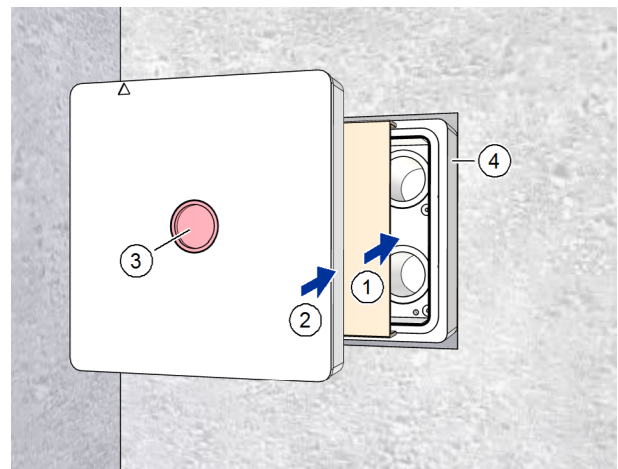

Fig. 11: Inserting the cardboard insert and plaster cover
- ▶ Place the cardboard insert (item 1 in Fig. 11) in the wall box (item 4 in Fig. 11).
- ▶ Insert the plaster cover (item 2 in Fig. 11) into the wall box (item 4 in Fig. 11) as far as it will go.
- ▶ Check that the red signal cover (item 3 in Fig. 11) is seated in the plaster cover.